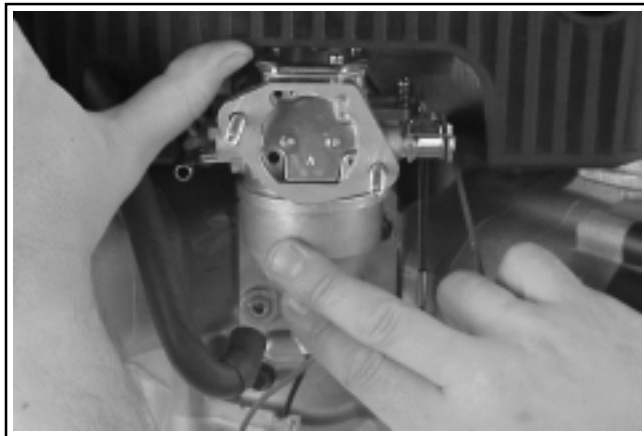

Figure 11-94. Installing Carburetor.
3. Install the carburetor as an assembly, onto the carburetor studs. See Figure 11-94. Carefully lift up on the lower blower housing, directly above the carburetor, and slide the carburetor into place against the gasket and manifold.